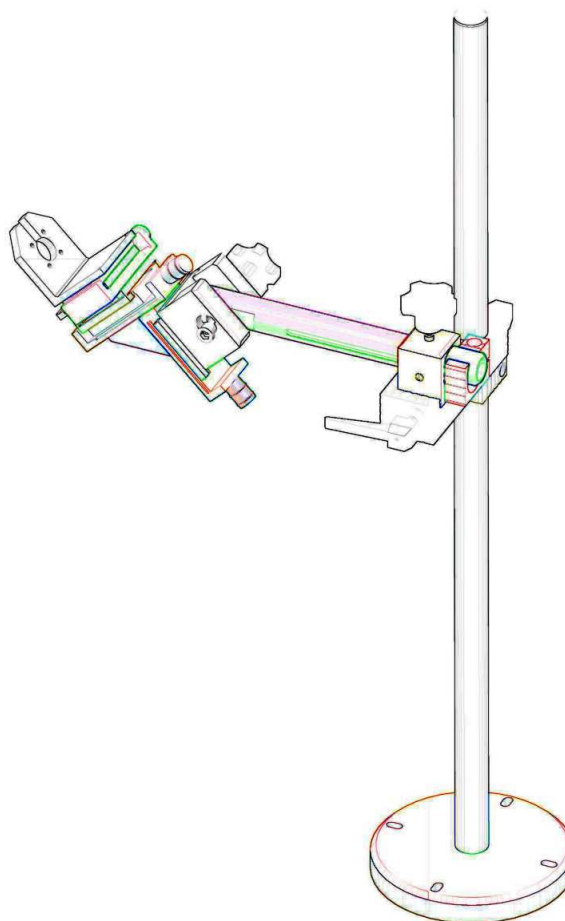
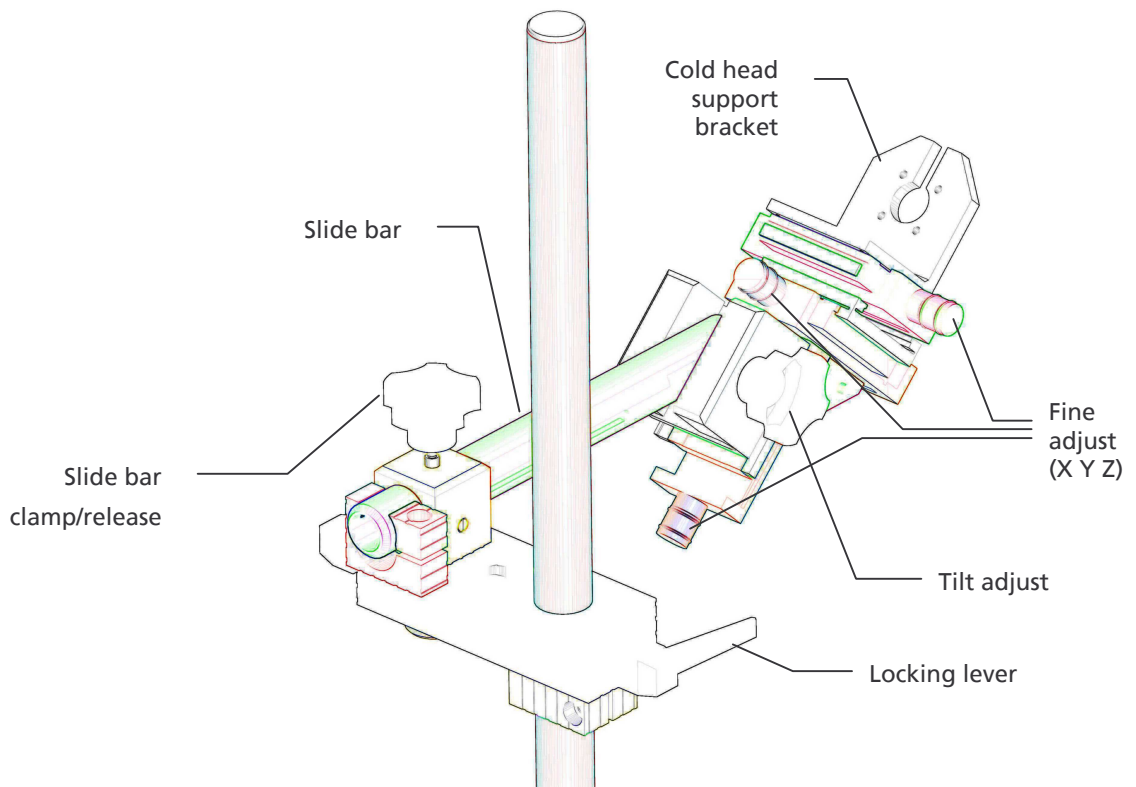

Figure 4 Cryojet adjustable stand
Figure 7 Cryojet stand details
The Cryojet is supported by a 3-axis translation and tilt stand (Figure 4) to provide precise jet control and optimum experimental geometry.
- b) Slide the stage assembly on to the stand and clamp in position using the lever (Figure 4 and Figure 7). Note that the lever can be rotated to any convenient position by pulling it to disengage the lever from the clamping mechanism.
- b) Slide the nozzle of the cold head through the hole cold head support bracket (Figure 7) and secure using four caphead screws (supplied) at the base of the nozzle. Use the pre-existing bend of the flexible section when you arrange the cold head in position. The shield tube running down the side of the cold head must fit through the slot in the side of the holder. If the shield tube does not line up with the slot, rotate the entire cold head until it does.